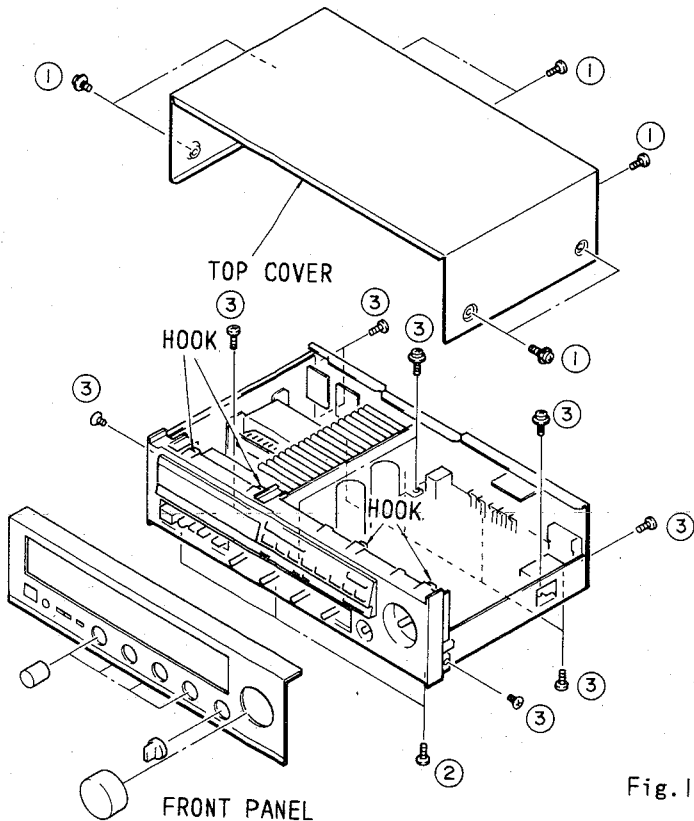

Fig.1
- ⑨ POWER SUPPLY CIRCUIT BOARD (1)
- ⑩ LCD CIRCUIT BOARD:TOP SIDE
- ⑪ MAIN CIRCUIT BOARD (3):BOTTOM SIDE
- ⑫ MAIN CIRCUIT BOARD (1)
- ⑬ MAIN CIRCUIT BOARD (6)
- ⑭ MAIN CIRCUIT BOARD (2)
- ⑮ MAIN CIRCUIT BOARD (9)
Remove 7 screws (①) in Fig.1 and slide the Top Cover back and up.
Remove 3 screws (②) and 4 hooks in Fig.1, and pull the Front Panel forward.
3. Check of Main Circuit Board (1) and replacement of parts.
a. Remove 12 screws (③) in Fig.1.